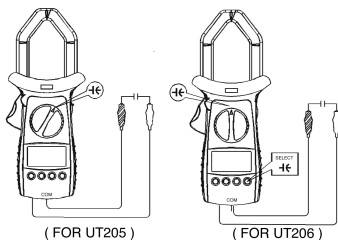

FIG 8
F. Capacitance Measurement (See figure 8)